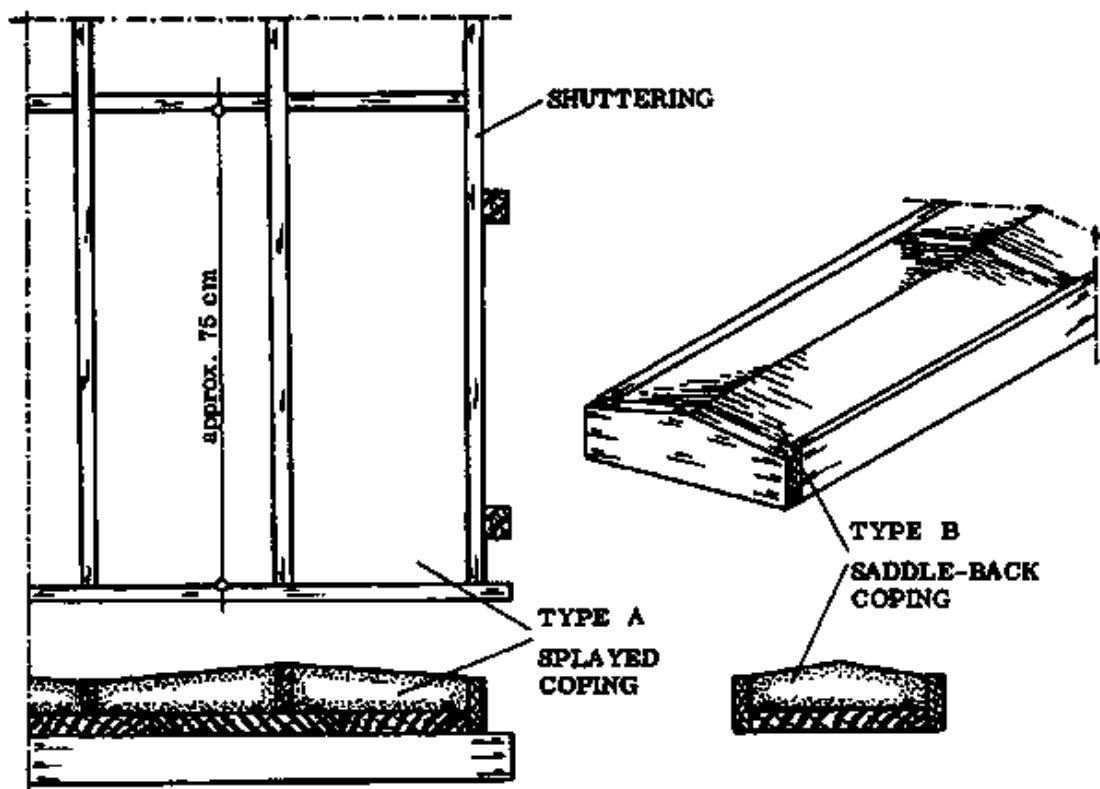

Fig. 2
- CONCRETE COPINGS OR CAPPINGS: These are of various shapes, with or without reinforcement (Fig. 2).